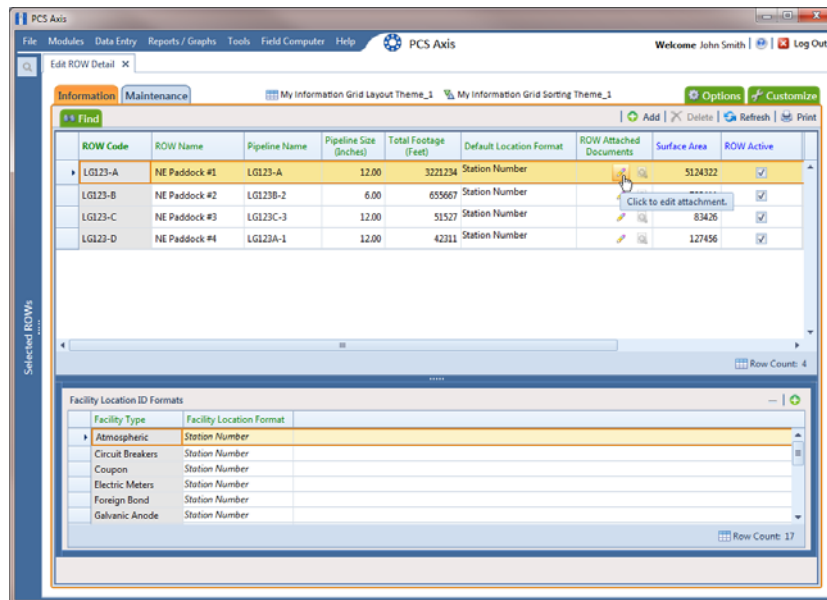

Figure 4-25. Edit ROW Detail
- 2 Click **Data Entry** > **Edit ROW Detail** to open the *Edit ROW Detail* window (Figure 4-25).
- 5 Click the edit icon  in the **ROW Attached Document** field for the pipeline record you plan to attach a document (Figure 4-25).